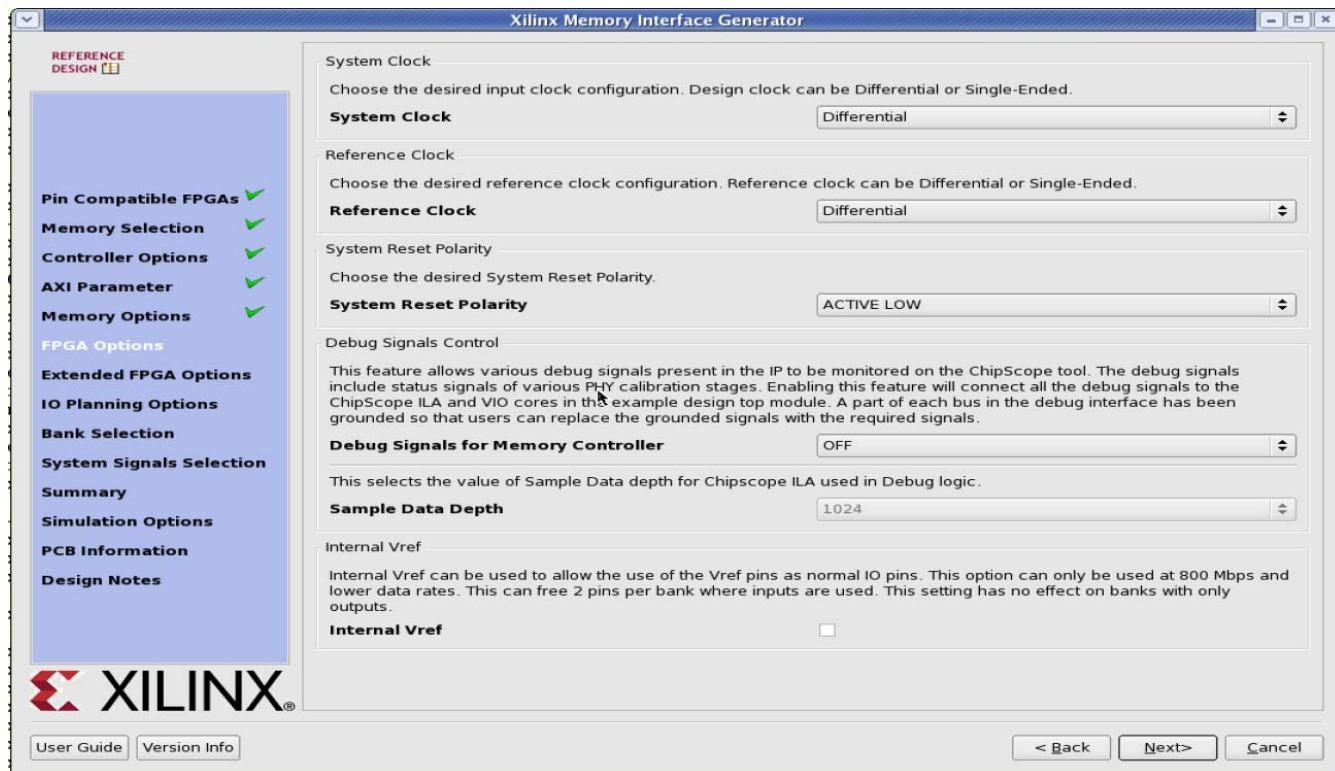

Figure 3-20: FPGA Options Page
Figure 3-20 shows the FPGA Options page.
- **sys\_clk** – This is the system clock input for the memory interface and is typically connected to a low-jitter external clock source. Either a single input or a differential pair can be selected based on the **System Clock** selection in the **FPGA Options** page (Figure 3-20). The sys\_clk input must be in the same column as the memory interface. If this pin is connected in the same banks as the memory interface, the MIG tool selects an I/O standard compatible with the interface, such as DIFF\_HSTL\_I or HSTL\_I. If sys\_clk is not connected in a memory interface bank, the MIG tool selects an appropriate standard such as LVCMOS18 or LVDS. The XDC can be modified as desired after generation.
- **clk\_ref** – This is the reference frequency input for the IDELAY control. This is a 200 MHz input. The clk\_ref input can be generated internally or connected to an external source. A single input or a differential pair can be selected based on the **System Clock** selection in the **FPGA Options** page (Figure 3-20). The I/O standard is selected in a similar way as sys\_clk above.
- **sys\_rst** – This is the system reset input that can be generated internally or driven from a pin. The MIG tool selects an appropriate I/O standard for the input such as LVCMOS18 and LVCMOS25 for HP and HR banks, respectively. Default polarity of `sys_rst` pin is active-Low. Polarity of `sys_rst` pin varies based on "System Reset Polarity" option chosen in **FPGA Options** page (Figure 3-20).